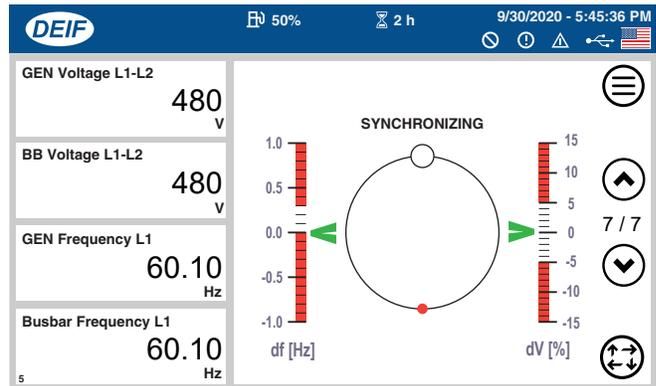

Figure 148. Synchronization Status Screen
- Verify that the **Synchronization Status screen (7 of 7)** is shown on the touch display of **generator #1**. See Figure 148.
- Observe as the small red circle (Figure 148) rotates about the axis, indicating that synchronization between the generators is in progress.